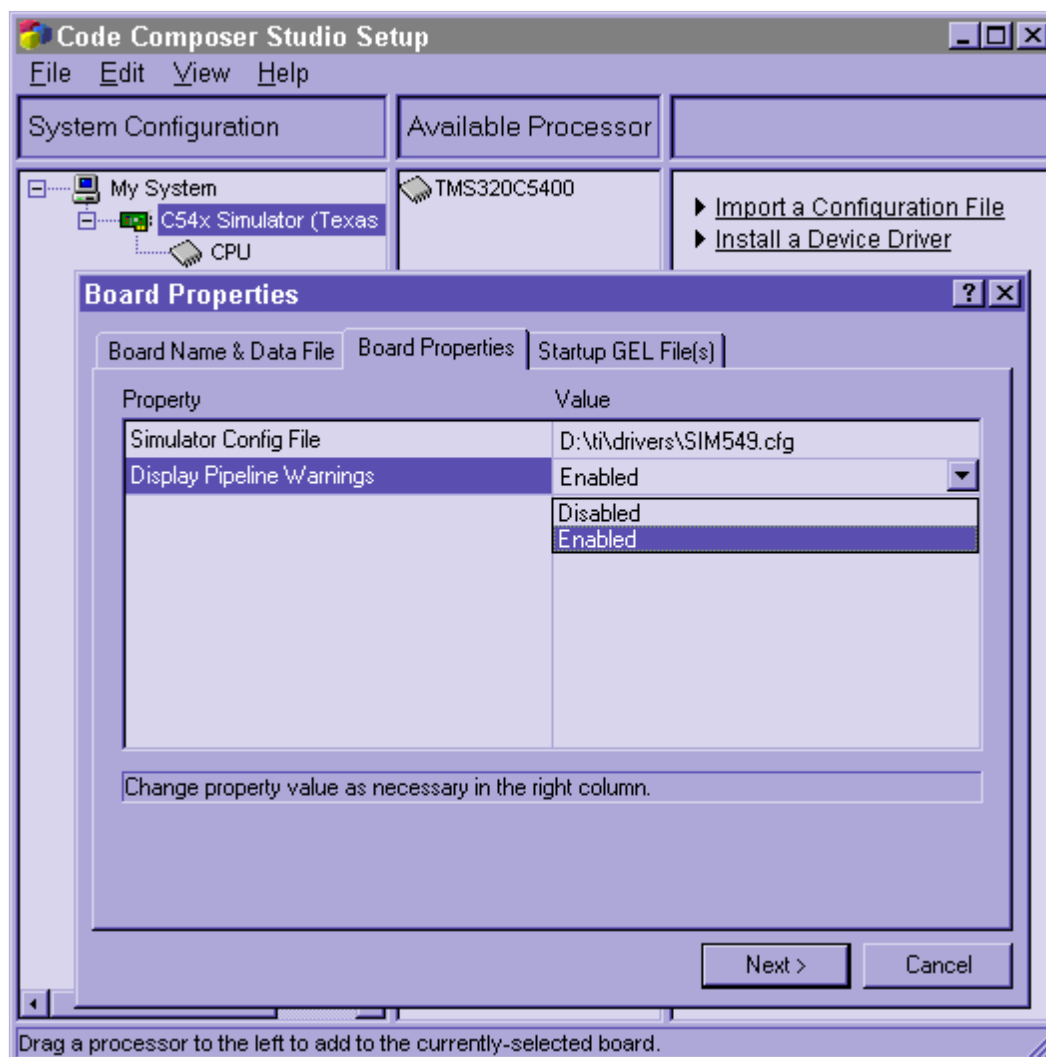

Figure 1. Setup for Pipeline Latency Warning
5. Select **Enabled** from the list box corresponding to **Display Pipeline Warnings**. (See Figure 1)
The simulator uses config files to provide the user the ability to configure itself. There is a default config file in the 'drivers' sub-directory in the Code Composer Studio installation directory corresponding to each configuration listed in Table 1. The exact path of the config file can be obtained from the Board Properties window as shown in Figure 1. A small part of the default config file used for C549 configuration is shown below: